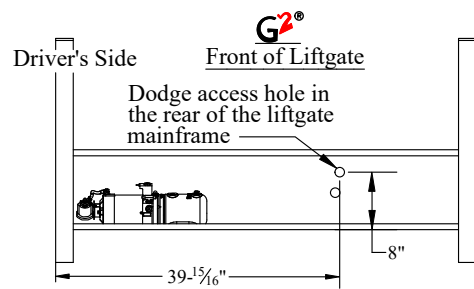

Figure 16: G²® spare tire access.
2. **Remove and Discard** the black plastic plug from the mainframe at the dimensions shown (Figure 16).